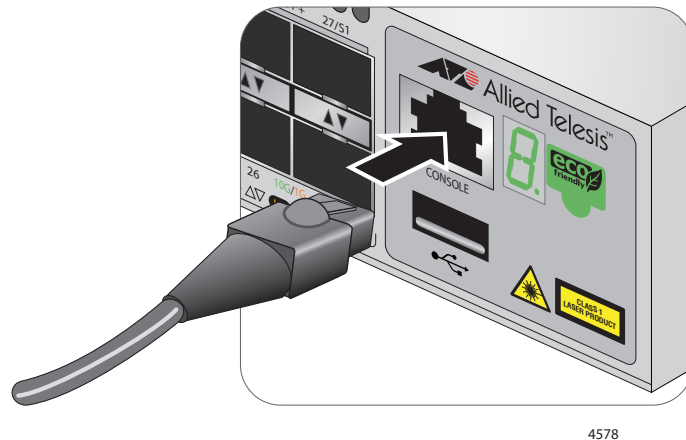

Figure 46. Connecting the Management Cable to the Console Port
1. Connect the RJ-45 connector of the management cable to the console port on the front panel of the switch, as shown in Figure 46.